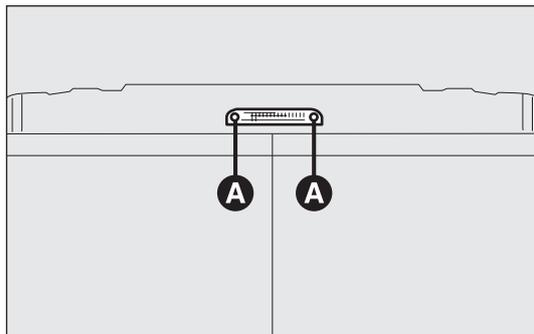

fig. 196
- unscrew both fixing screws A-fig. 196;